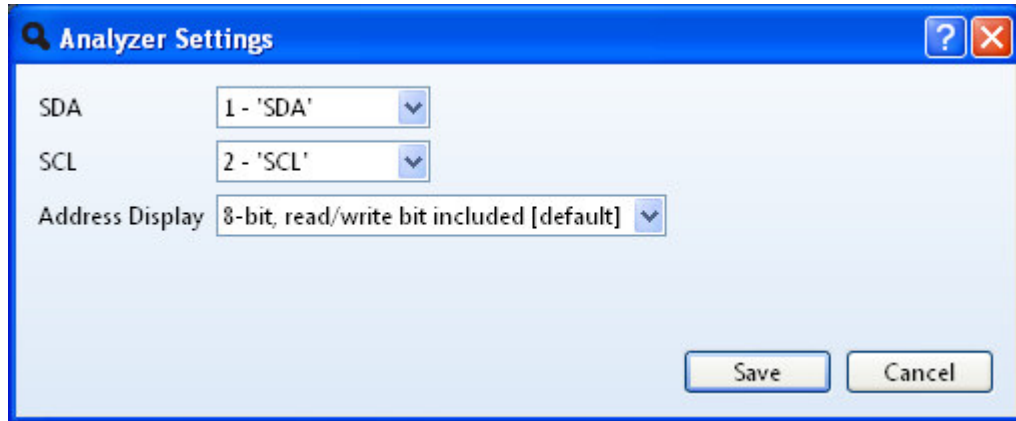

**Figure 30 – I2C Protocol Analyzer Setup**
- Click the Plus icon next to the Analyzers tab. Select I2C protocol to be analyzed. An I2C section will be added under the Analyzers window. Click the setup icon and click “Edit Settings” and assign the appropriate channels for I2C SDA and SCL signals as shown in Figure 30.